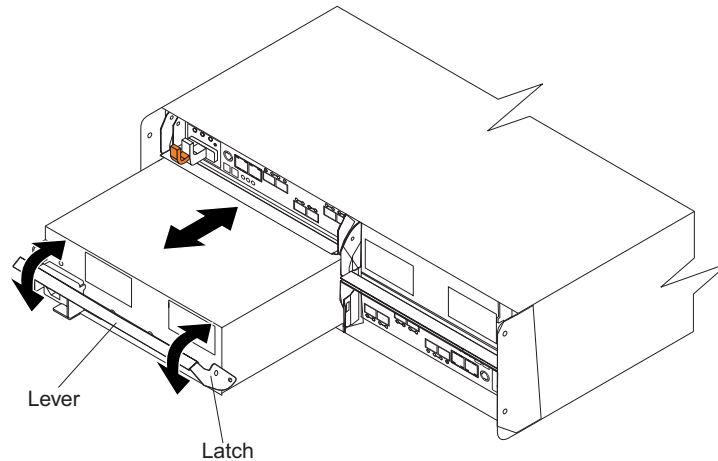

Figure 17. Removing a power supply and fan unit
2. Slowly pull the lever away from the chassis to remove the power supply and fan unit, as shown in Figure 17 on page 41.